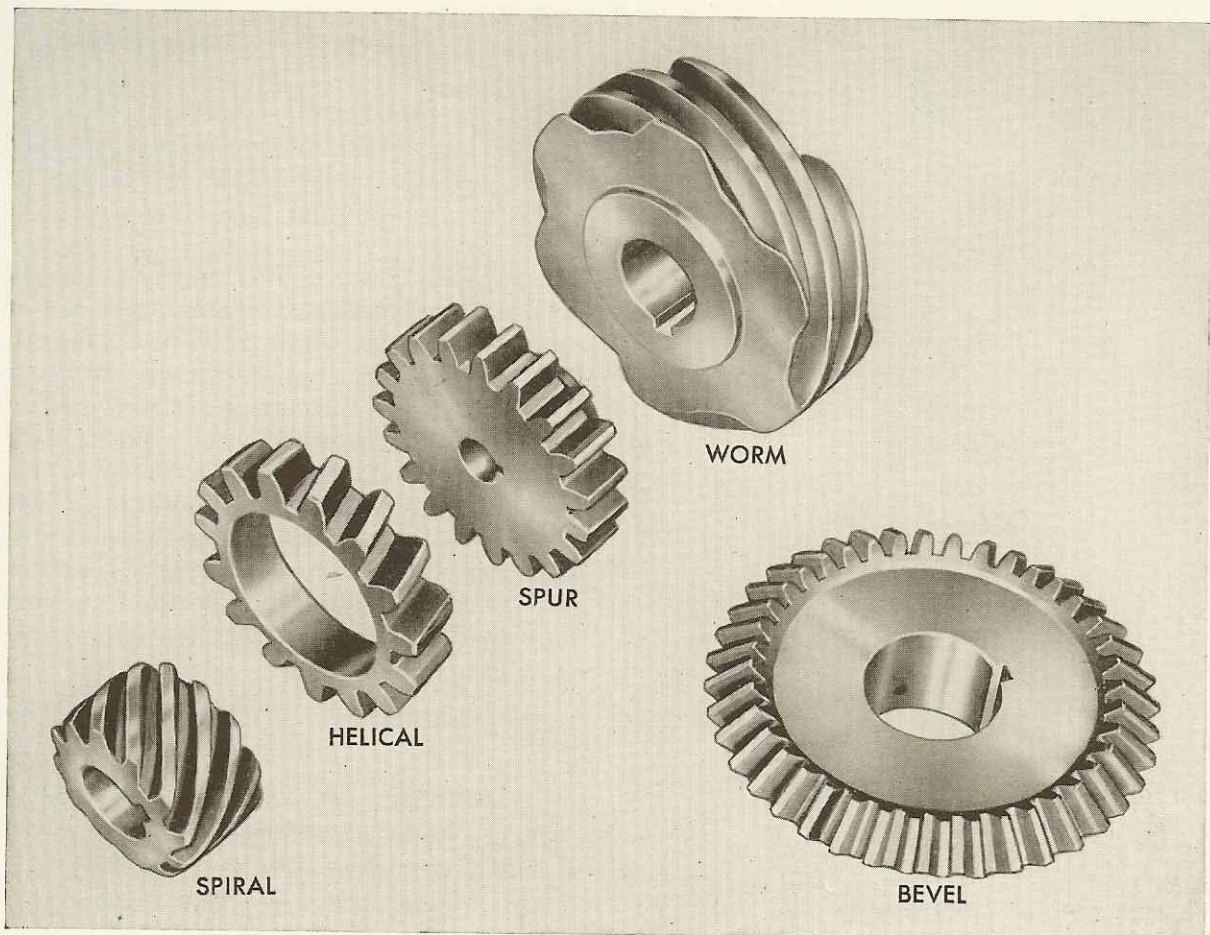

FIGURE 8-32
49. GEARS: One shaft may be made to turn another by means of gears. Various types of gears are shown in Figure 8-32. The speeds of the two shafts will be in inverse proportion to the number of teeth of their respective gears. For example, a shaft A with a gear having 30 teeth is driving a shaft B through a gear on that shaft having 90 teeth: shaft A will turn three times as fast as shaft B.